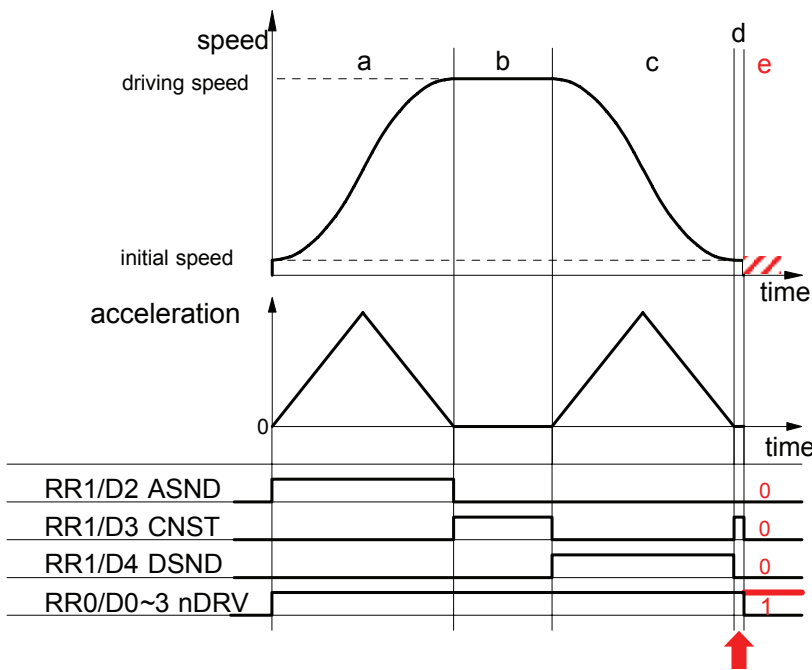

Figure 3. Status of deceleration shown by RR1 register
Deceleration status of accelerating(ASND), constant speed driving(CNST) and decelerating(DSND) can be read out according to RR1 register of IC. The status is shown as Figure 3. as below ;
The timing when the trouble may possibly happen is shown as “d” on Figure 3. At this time, status of deceleration is constant speed driving(CNST=1). Besides in case the trouble such as outputting pulse continuously happens, all of ASND, CNST and DSND will become 0 even though it's driving(RR0/nDRV=1).
Basically once deceleration starts, it isn't necessary to execute deceleration stop command. Therefore deceleration stop command should be prohibit. See nRR1/D4(DSND) normally to know it's decelerating or not. Timing when the trouble happens is in “d” as shown on Figure 3 if deceleration stop command is executed. In “d” DSND status bit is 0 and CNST status bit is 1. Therefore the following two(2) solutions will be proposed.
(1) When interruption from IC can be used
Terms when deceleration stop command should be executed in accelerating and constant speed driving such as "a" and "b" on Figure 3. Status of deceleration for both "d" (timing when the trouble happens) and "b" (constant speed driving) is same as constant speed driving as shown on Figure 3. But there is difference of driving speed between two. Driving speed in "b" is near that of setting driving speed. Driving speed in "d" is near that of initial speed. Therefore before driving starts, prepare judgmental speed which is middle one between initial speed and setting speed ($(\text{Driving speed} - \text{initial speed})/2 + \text{initial speed}$). When execute deceleration stop command during driving, make sure status is accelerating(ASND=1) or constant speed driving(CNST=1) and driving speed is same or faster than judgmental speed.
Constant speed area ("b" area) on Figure 3 is set as occurrence factor of interruption. But this interruption is also happened when there is "d" area just before driving stops on Figure 3 such as when driving speed reaches initial speed or when acceleration becomes 0(zero). There should occur "d" area definitely if the trouble is happened just before driving stops, driving speed hasn't reached initial speed yet, acceleration becomes 0 and decelerating stop requirement is executed. The measure is to judge if the trouble happens or not in the timing of interruption when "d" area ends.
- ① Check if driving goes out constant speed area or not. If RR3/D5(C-END) bit of driving axis is 0, there are other interruption factors. Execute those interruption processing.
- ② Check if driving goes into decelerating area or not. If it's RR1/D4(DSND)=1, make it finished as it goes because driving goes into "c" area from "b" area on Figure 3. If it's RR1/D4(DSND)=0, move it to ③ processing because driving has gone out "d" area.
- ③ Check if driving has finished or not. If it's finished, make it finished as it goes because driving has finished normally. But if it's not finished yet, surely trouble have happened because status is shown as it's still driving even though driving has gone out "d" area.
- ④ Check if hard limit is ON or OFF. Since RR1/D12 bit becomes 1 if + limit is ON and RR1/D13 bit becomes 1 if - limit is ON, if it's D12=1 or D13=1, judge forward limit is ON.
- ⑤ If trouble has happened, it becomes ASND=CNST=DSND=0. Check them all.
- ⑥ Execute sudden stop command(27h).
(2) When interruption can't be used
In "d" area on Figure 3, if forward limit is active, the trouble will happen, more exactly saying, it will seldom happen. There isn't any method to avoid it before it happens. So immediately after the trouble happens, take means to stop driving. If the trouble happens ("e" area on Figure 3), status keeps driving(RR0/nDRV=1), status of acceleration/deceleration is 0 in ASND, CNST, DSND. This is completely abnormal state. So the example of measure is shown as follows;